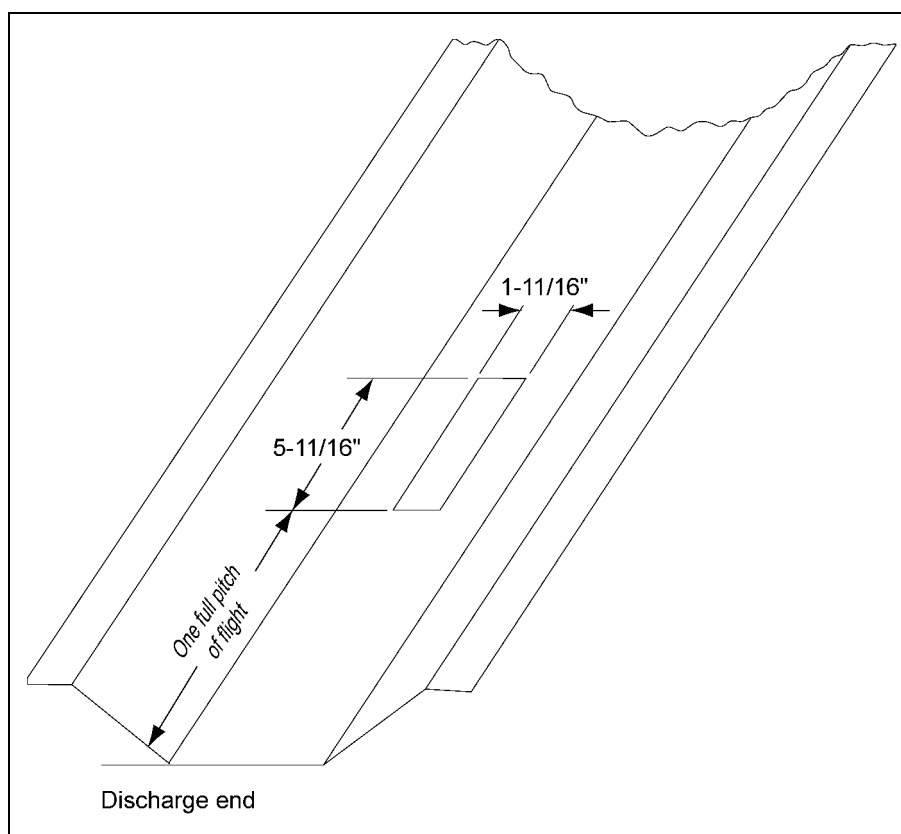
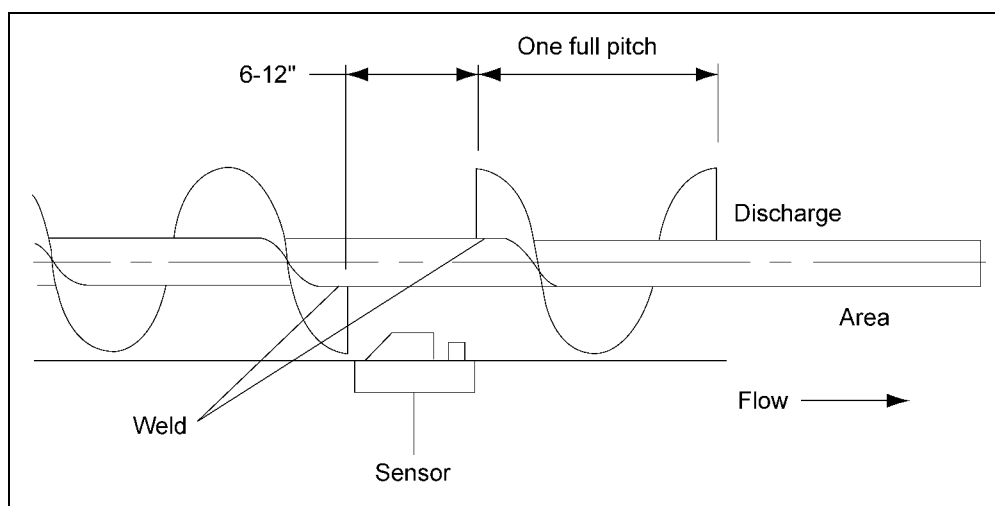

Figure 4D
Figure 4E
1. Determine where the sensor can be located. (See Figure 4D.) There must be at least one full pitch of flight before and after the sensor. (See Figure 4E on Page 14.)
2. Remove the flat bottom pan and mark the sensor cut out area at least one pitch length of the auger from the discharge area. This allows for good pickup of the grain when it leaves the sensing area. Cut the sensor rectangle $1\text{-}\frac{11}{16}$ " x $5\text{-}\frac{11}{16}$ " with a saber saw (do not torch cut) and check so the sensor block fits into it with the stepped edge. (See Figure 4D on Page 13.)
NOTE: For 7" flight or less, cut the flight to the shaft. Weld the auger flight to the shaft at each end of the $6\text{-}\frac{1}{2}$ " cut out marks, then cut out the $6\text{-}\frac{1}{2}$ " of flighting from the auger, leaving only the drive tube. For 8" or larger diameter flighting, $\frac{1}{2}$ " of flighting can be left as a ribbon around the shaft in the cut out area. (See Figure 4E.)